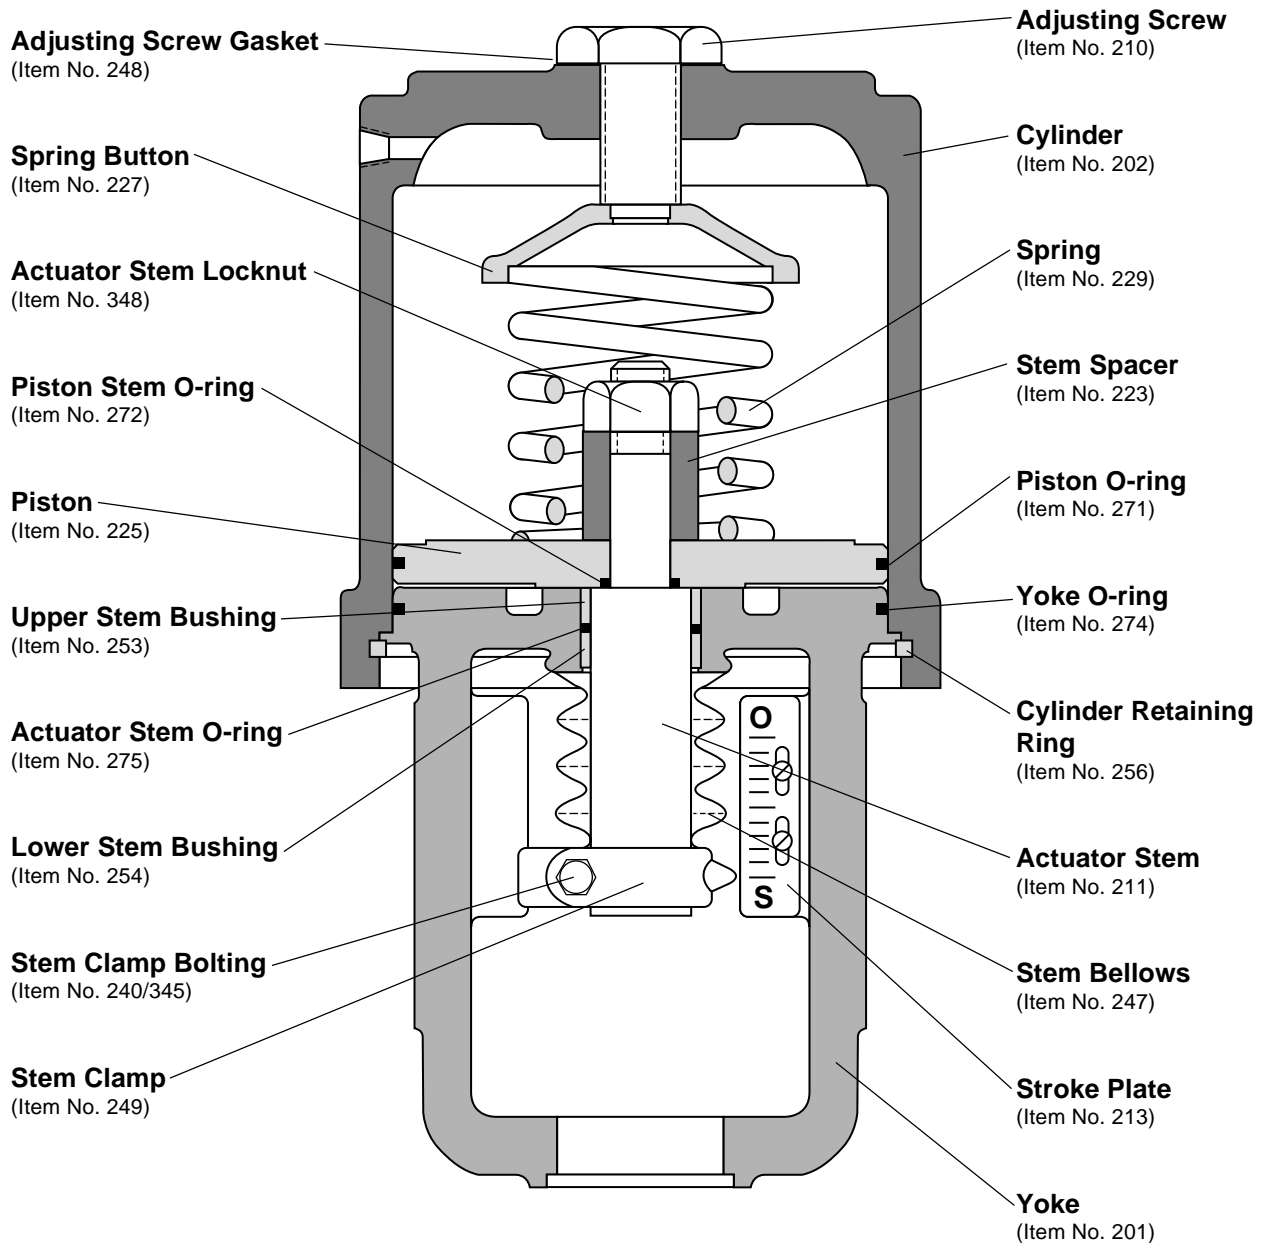

Figure 1: Air-to-retract Cylinder Actuator
Refer to Figures 1 through 5 to disassemble the cylinder actuator.
7. For air-to-retract configurations, remove the spring(s) and spring button for cleaning and inspection (see Figures 1, 3 and 5). Remove the actuator stem locknut and slide the piston and stem spacer off the actuator stem. The spring guide should be removed when using heavy-duty spring designs.
To reassemble the cylinder actuator, refer to Figures 1 through 5:
in the yoke until it bottoms out. Press the upper stem bushing into the bore until it is flush with the top of the yoke (refer to Figures 1 or 2).
5. Reassemble the piston, piston stem O-ring and stem spacer on the actuator stem according to the proper air-action (refer to either Figure 1 or 2). Replace the piston O-ring. Air-to-extend configurations require the spring button to be stored under actuator stem locknut. Tighten the locknut firmly.
To change the air action from air-to-retract to air-to-extend, or vice versa, refer to Figures 1, 2 or 5: